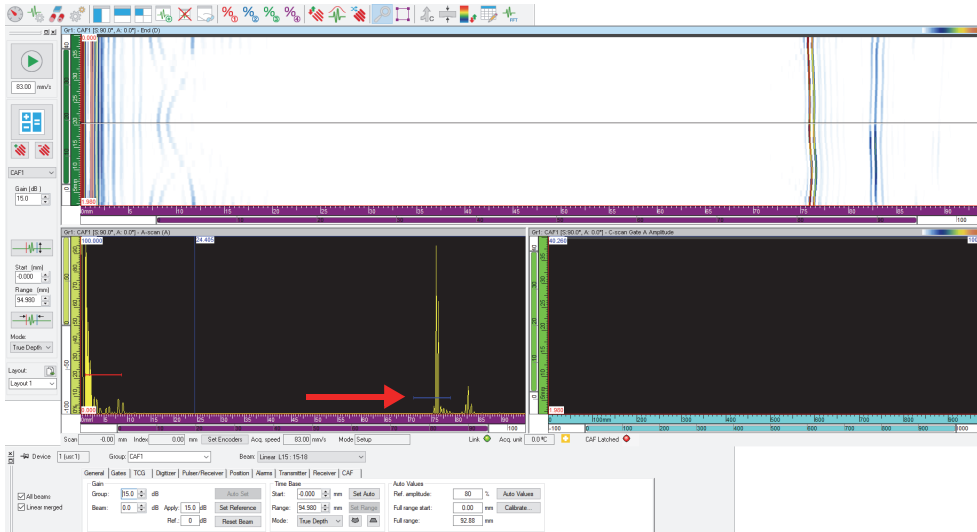
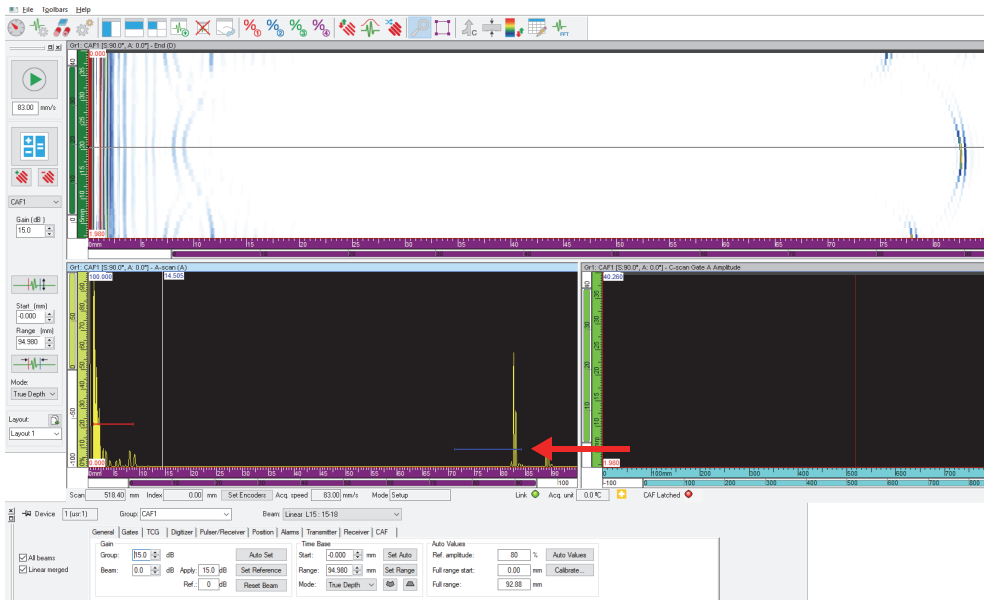

Figure 4-58 Setting the beginning of the interface gate
Figure 4-59 Setting the end of the interface gate
5. Align the probe on the sample to get good concentricity. When the probe is concentric with a curved sample, the signal appears flat like in Figure 4-58 on page 151.
6. At that position, set the beginning of the interface gate (Figure 4-58 on page 151).
7. If the sample geometry varies, go to the R2 position (Figure 4-58 on page 151). Set the end of the interface gate (Figure 4-59 on page 152).